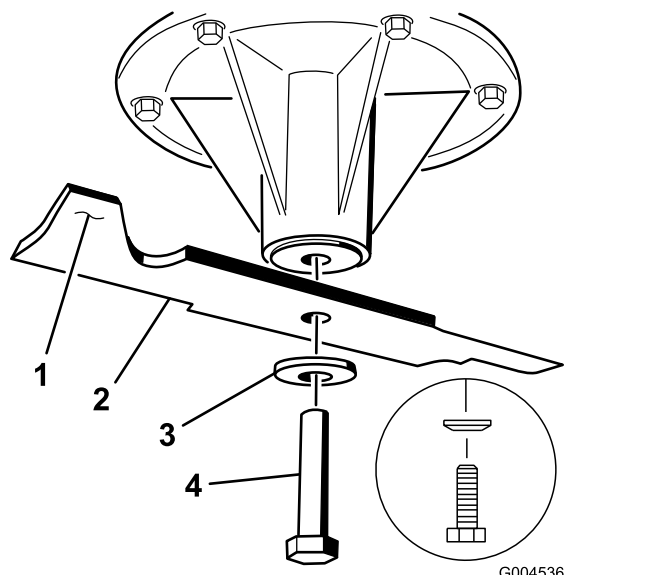

Figure 101
1. Install the blade onto the spindle shaft (Figure 101).
2. Install the spring disk and blade bolt (Figure 101).
**Note:** The spring-disk cone must be installed toward the bolt head (Figure 101).